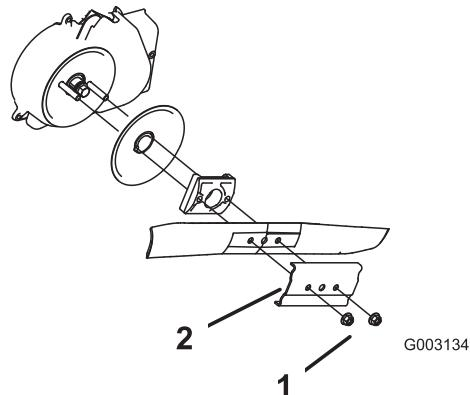

Figure 43
- Remove the 2 blade nuts and the stiffener (Figure 43).
- Remove the blade (Figure 43).
- Remove the blade driver and the disk (Figure 43).
- Remove the blade brake-clutch shield (Figure 43).
- Install the blade and the stiffener that you previously removed (Figure 43).